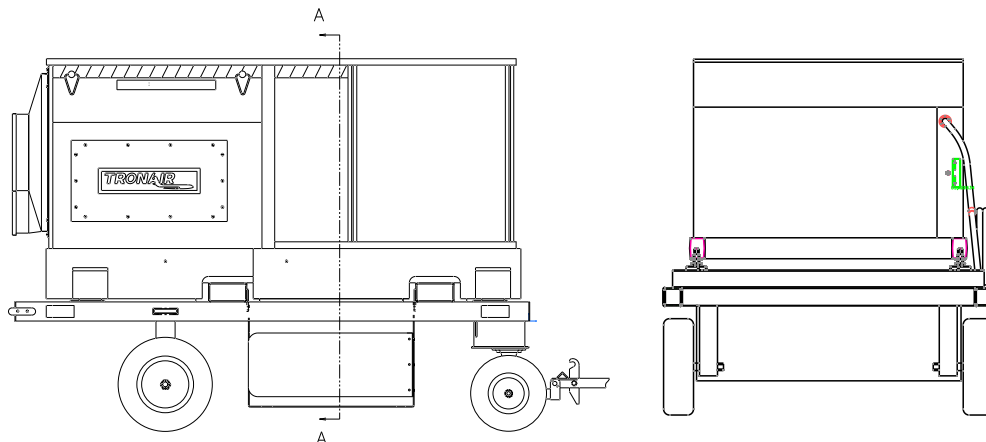

FIGURE 9
7. Locate the Heat/Cool switch in front of the air conditioner unit near the power cord. See **Figure 9**.